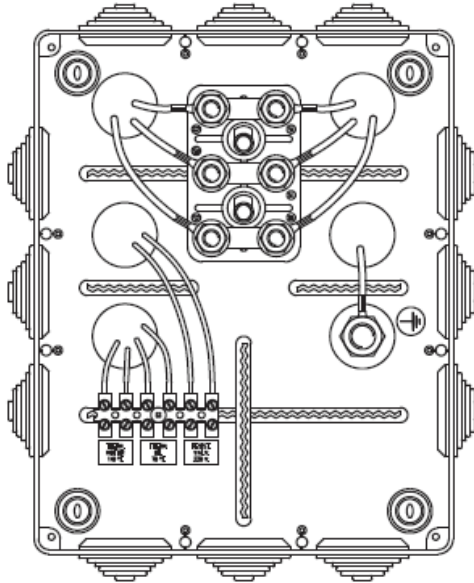

Figure 5 - Connection box for standard pump unit
- The box of the standard pump unit includes (see Figure 5):